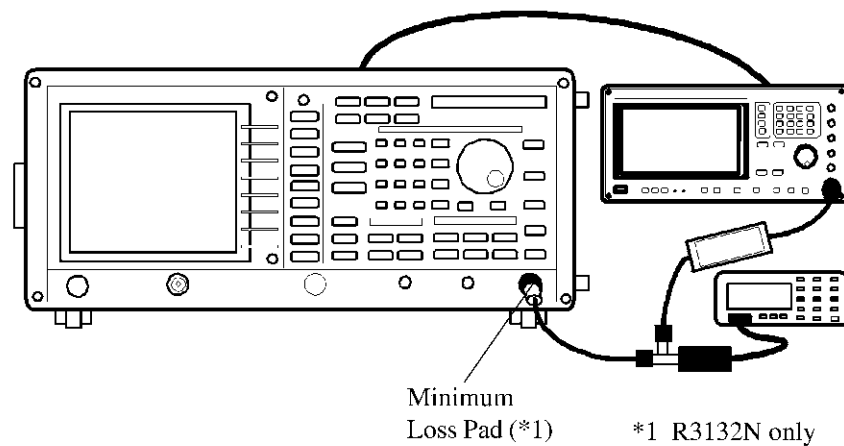

Figure 5-15 Setup of Second Harmonic Distortion Test
4. Connect the power meter, the signal generator, the power splitter and the low pass filter as shown Figure 5-15.
20. Connect the low pass filter as shown Figure 5-15.